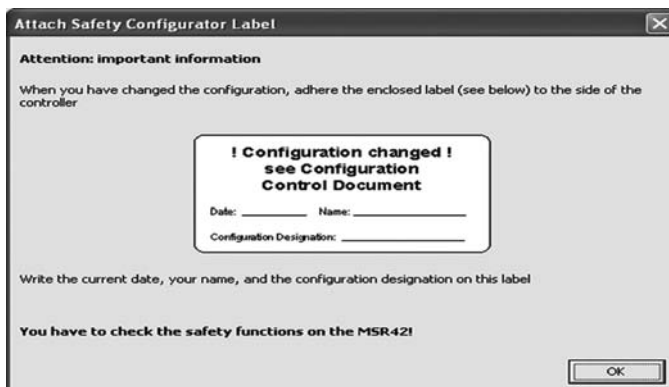

Figure 50: Confirm and put the configuration changed label on the MSR42
15. Sign the Configuration Control Document (Figure 51) and the “Configuration Changed” label. Attach this label to the newly configured MSR42 control unit (Figure 50) and confirm with “OK.”